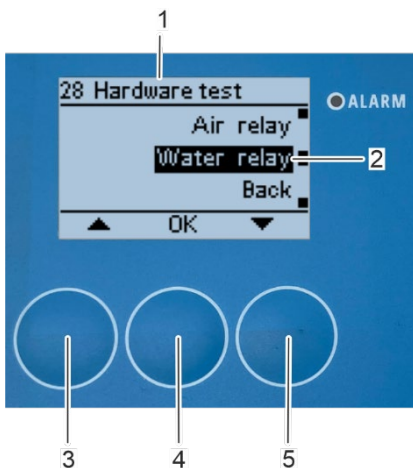

Fig. 148: Open submenu "water relay"
⇒ The "28 Hardware test" submenu (Fig. 148/1) appears again on the display, the air relay opens and compressed air no longer flows out of the compressed air nozzle.
1. Select the "Water relay" submenu (Fig. 148/2) with the arrow keys [up] (Fig. 148/3) and [down] (Fig. 148/5).
2. Confirm the selection with [OK] (Fig. 148/4).